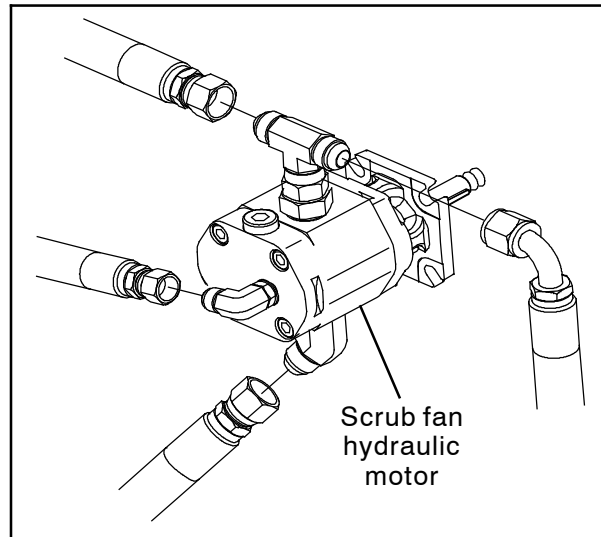

FIG. 7
- Disconnect the four hydraulic hoses from the fittings on the scrub fan motor. Leave fittings installed on the scrub fan motor. (Fig. 7)